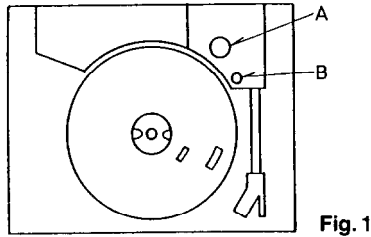
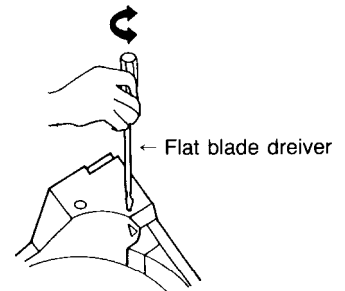
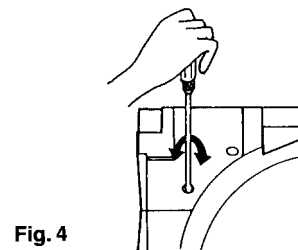

Fig. 1
Fig. 3
Fig. 4
### 3-1. Needle tip height adjustment (B section) Refer to Fig. 1 and Fig. 3
4. Shift the arm to a position over the record (tone arm in the free condition), and make the adjustment as shown in Fig. 3 so that the tip of the needle is 5mm to 11mm clear of the rubber sheet.
### 3-2. Lead in adjustment (A section) Fig. 1 and Fig. 4 Test record: ONK-1000
2. As shown in Fig. 4, make the adjustment to the following counts: